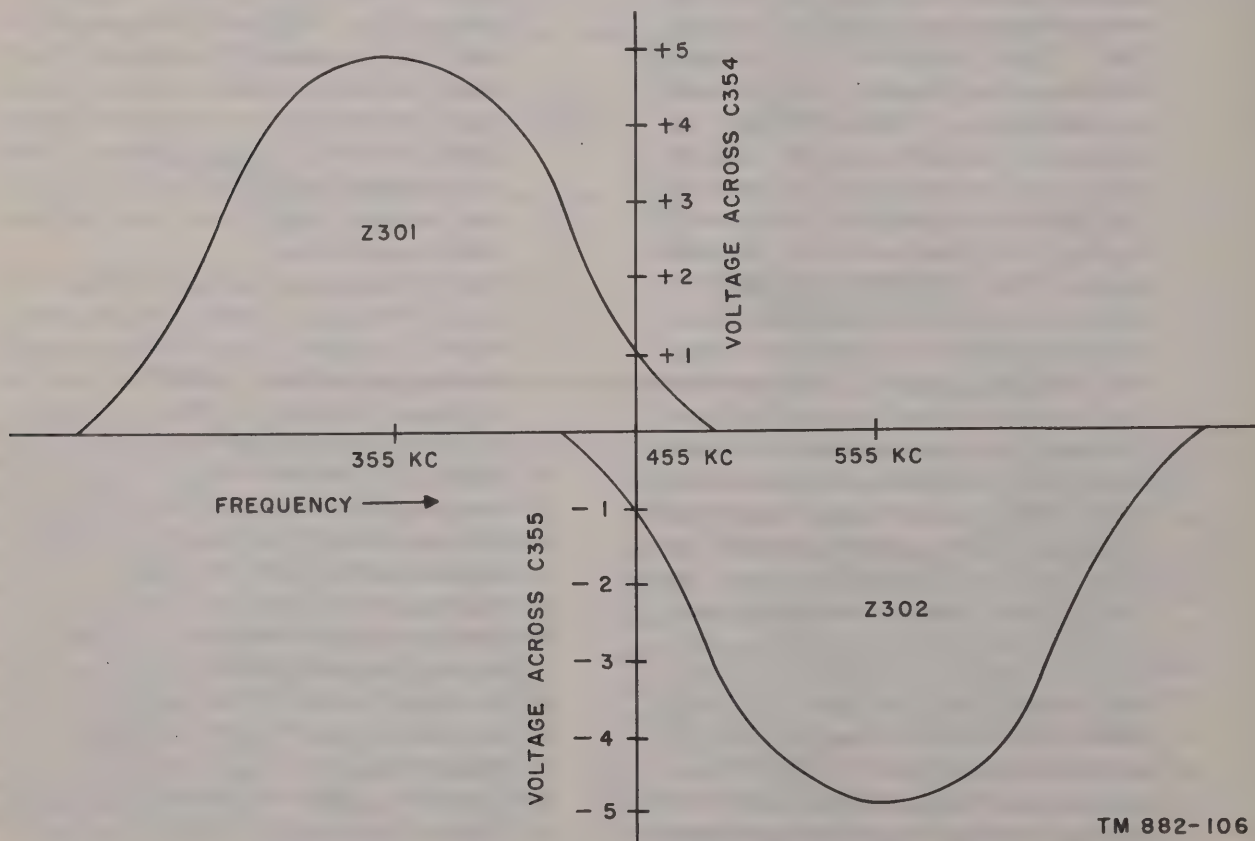
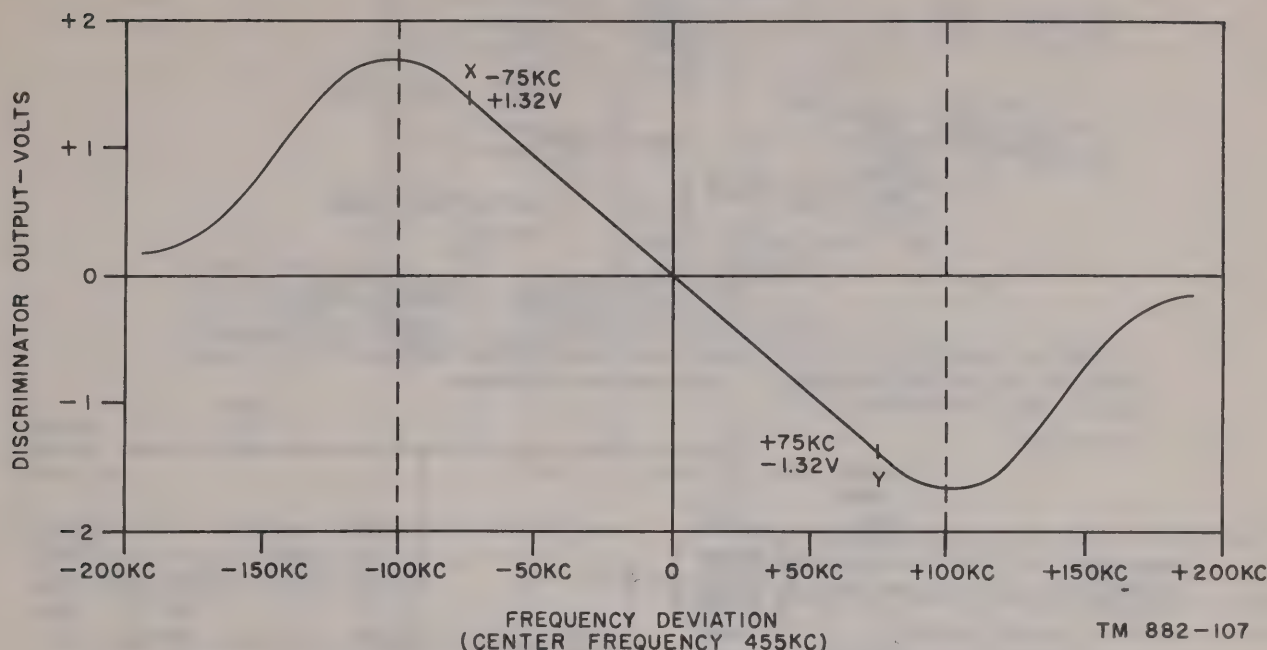

Figure 46. Typical dc voltages developed across C354 and C355.
Figure 47. Overall output of discriminator circuit showing linear portion between X and Y.
final voltage between ground and point A is equal to that across C354 minus that across resistor R355. If the voltage across C355 is greater than that across its associated resistor, R356, then the final voltage across R358 is equal to that across C355 minus that across R356. The polarity of the voltage between ground and point A depends upon which capacitor, C354 or C355, has the greater voltage across it. The nature of the output obtained from point A as a result of the variations in potentials of C354 and C355 can be understood more easily by referring to figures 46 and 47.
- (1) *Voltages across C354 and C355* (fig. 46). When the carrier swings downward in frequency, a positive voltage is produced, and when the carrier swings upward in frequency, a negative voltage is produced at point A with respect to point D
(ground). If we now plot the output voltage across C354 and C355 with respect to frequency, we obtain a graph that looks like that shown in figure 46, arbitrary values again being used. The response of the Z301 system is shown above the frequency reference line because the voltage developed across output load R358, as a result of Z301, is positive with respect to ground. The response of the Z302 system is shown below the reference line because the voltage developed across R358 as a result of Z302 is negative with respect to ground.
- (2) *Voltages across R358* (fig. 47). The two curves shown in figure 46 can be combined into the typical S characteristic of the discriminator (fig. 47) by algebraically adding the voltages developed across C354 and C355. For example, at the mean frequency of 455 kc, the response of Z301 is the same as that of Z302 and the voltage developed across C354 is the same as that across C355, but they are of